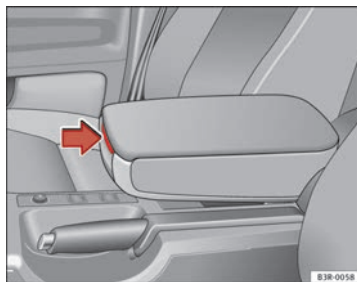

Fig. 114 Armrest between the driver seat and front passenger seat
- Press the release lever ⇒ Fig. 114.